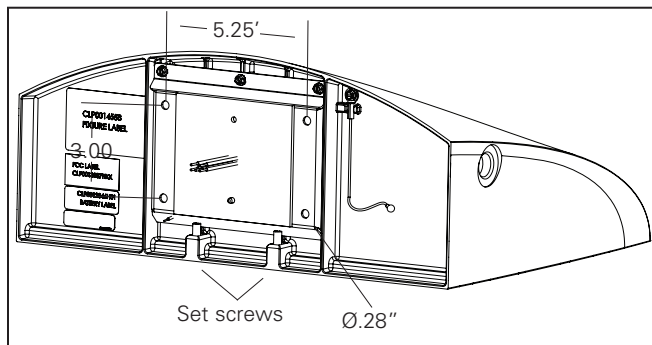

Figure 1.
1. Remove the wedge plate by loosening the two set screws on the fixture (Figure 1).